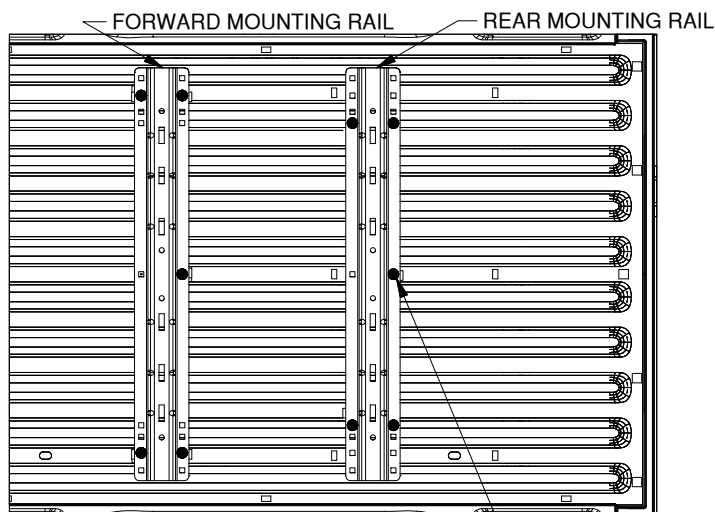

Figure A2: Detail view over bed, showing drill locations for the forward and rear bed rails. DRILL LOCATIONS HIGHLIGHTED BY BLACK DOTS
2. **Mark hole locations.** While carefully ensuring the mounting rail does not move, use a center punch tool to mark the 5 drill locations on the rear rail. See Figure A2 for hole marking locations for this installation (forward rails will install on a later step). Once all 5 rear rail locations are clearly marked, move the bed rail out of the way and drill each location with an 1/8" drill.
3. **Drill forward mounting holes.** Using the same methods as used for the rear mounting rail, mark and drill the 1/8" holes for the forward mounting rail. Refer to "DRILL REAR MOUNTING HOLES" section, Step 2, on a previous page. Notice that the hole locations are slightly different than the rear rail, see Figure A2 (on the second page).